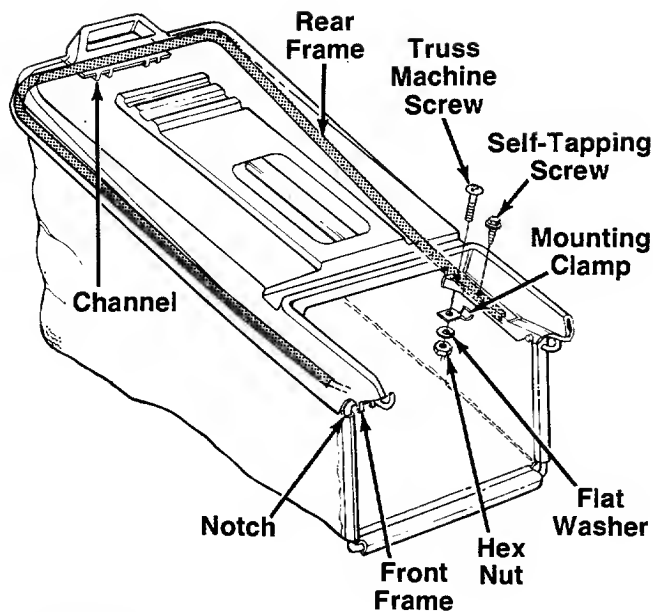

FIGURE 16.
4. Attach the hardtop cover to the grass catcher as follows. See figure 16.
- d. Attach cover to frame using self-tapping screws as shown in figure 16.